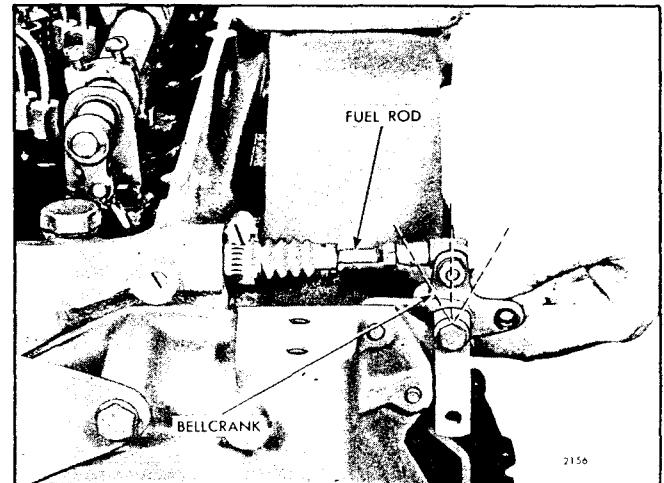

Fig. 2 - Adjusting the Fuel Rod
1. Check the travel of the bell crank as shown in Fig. 2. The vertical arm of the bell crank should move